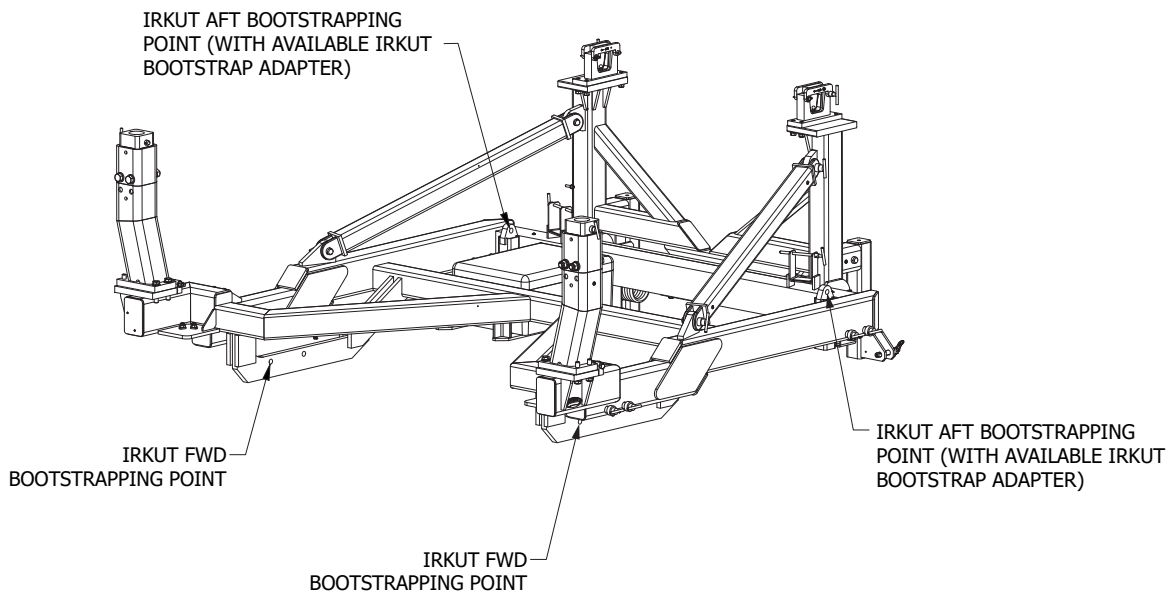
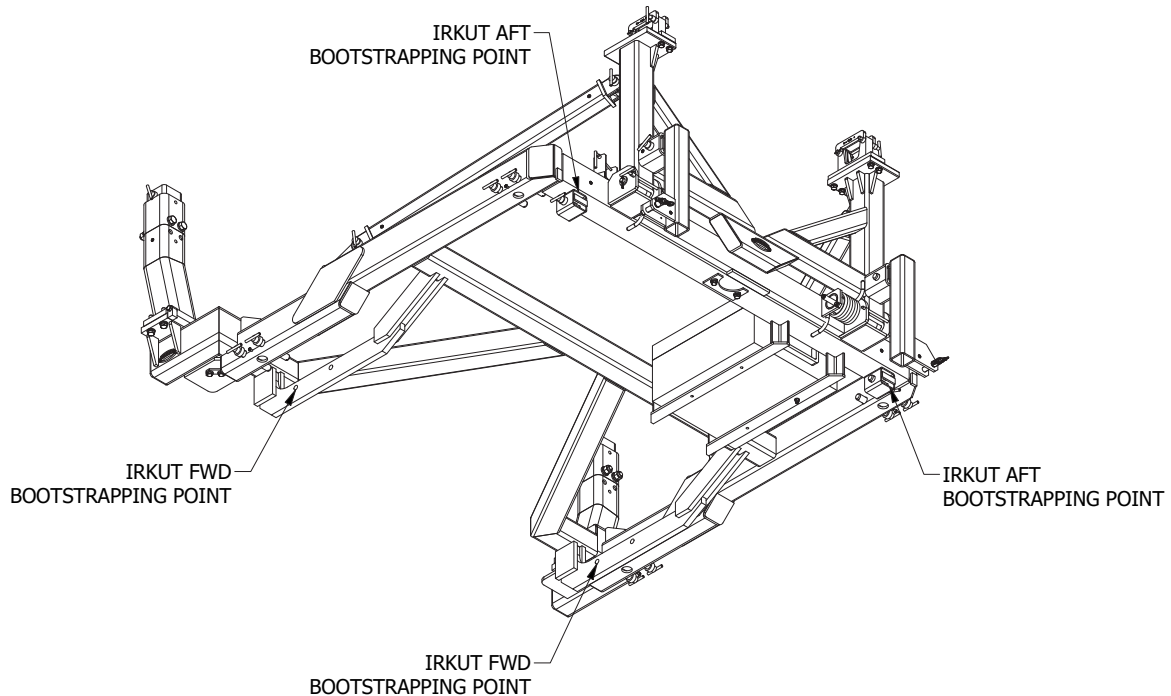

Figure 5.3-4 Irkut Bootstrapping Points with Available AFT Bootstrap Adapter
Figure 5.3-5 Irkut Bootstrapping Points without AFT Bootstrap Adapter
- 11) For Irkut, the Airbus AFT bootstrap adapters may be left in their storage locations. (Illustration Figure 5.3-4 and Figure 5.3-5).